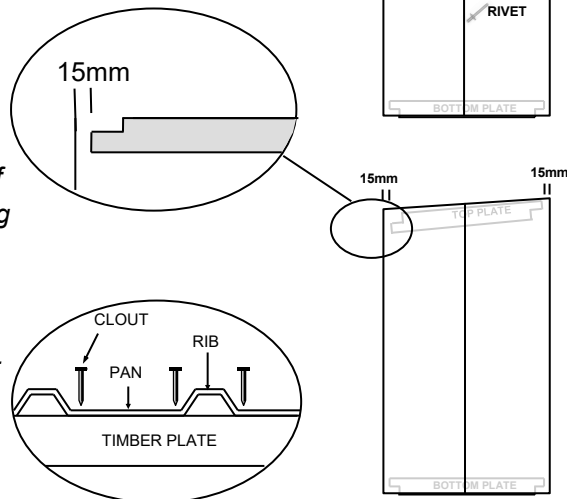

fig.1
- Using six rivets, attach padbolt support as shown in fig. 1.
- Check that the Top Plate is straight then nail the wall sheet to the Top Plate, two clouts per pan (see **fig. 1**).
- Check that the Bottom Plate is straight then nail the wall sheets to the Bottom Plate, two clouts per pan (see **fig. 1**).